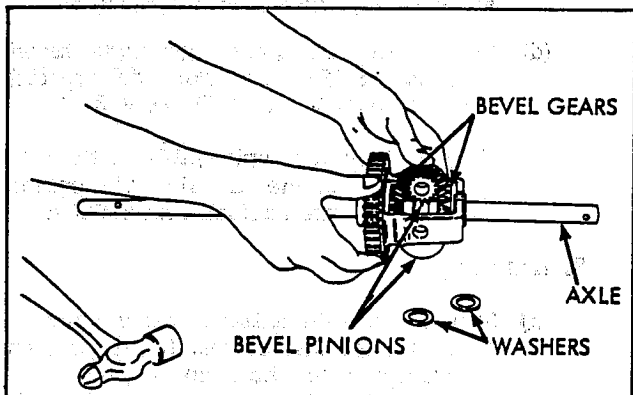

Figure 8-6
- (d) Install bevel pinions SIMULTANEOUSLY FROM OPPOSITE SIDES by rotating pinions in opposite directions while sliding into position in gear assembly. See Figure 8-6. Check alignment by inserting fingers into drive pin holes. If not aligned, drive pin cannot be inserted. Remove and replace bevel pinions as only one tooth out of position will cause misalignment.